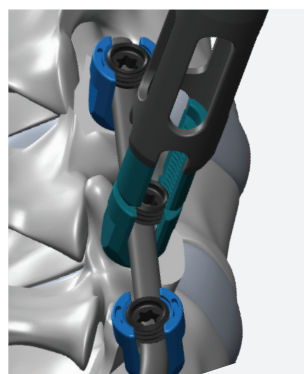
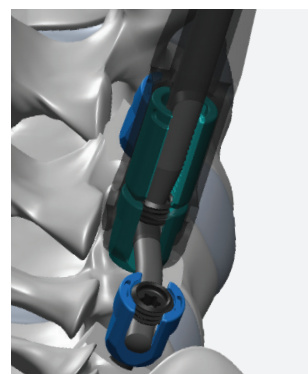
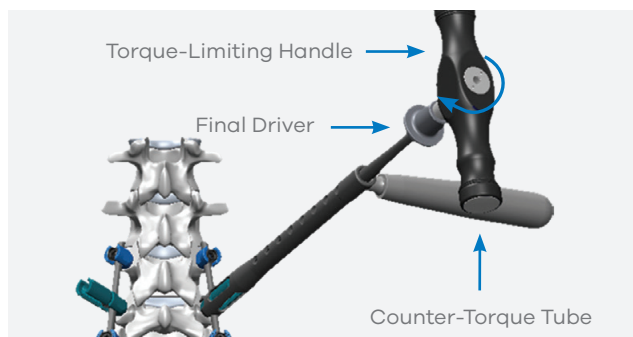

Figure 24A
Figure 24B
Figure 24C
- Final lock by inserting the reduction counter-torque tube (02-RS-C-TORQUE) over the reduction pedicle screw (Figure 24A) and down onto the rod (Figure 24B). Insert the final driver attached to the torque-limiting handle and engage the set screw. Holding the reduction counter-torque tube in place, rotate the handle clockwise (Figure 24C) until it emits an audible or tangible “click.” Remove all instruments and final lock all remaining set screws.